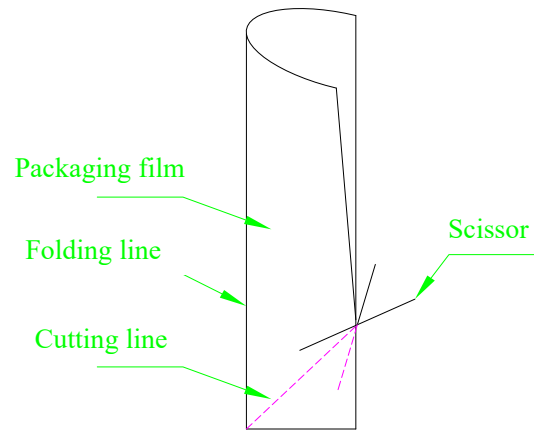

Fig.3-2 Schematic diagram of film cutting
2. Fold the film in half and make a inclined cut, as shown in fig. 3-2.